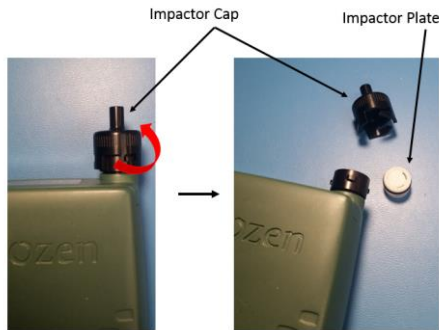

Figure 1. Respirable Dust Impactor Assembly: Impactor Cap and Impact Plate.
1. To access the impactor plate, the impactor cap must be removed. Rotate the cap until it is unclipped and pull it away from the DustCount 8899 unit to remove it, see **Figure 1**.